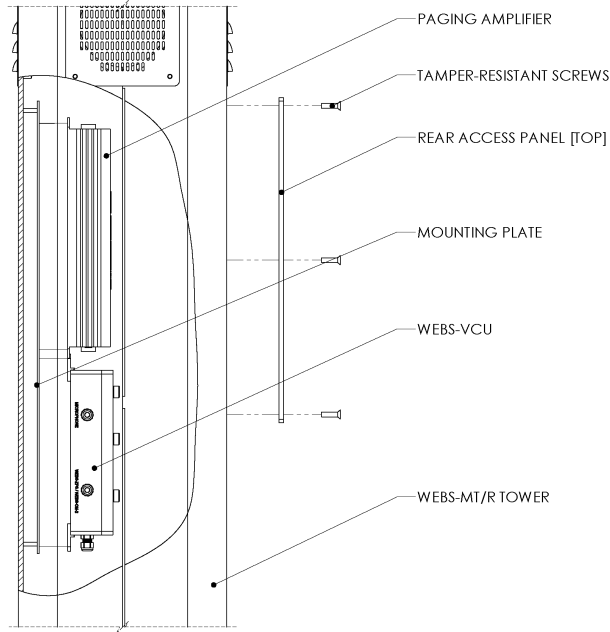

Figure 2. Installing the Paging Amplifier and the WEBS-Volume Control Unit (WEBS-VCU).
4. Remove the rear access panel (top) of the tower and mount the paging amplifier vertically aligned (power connection / speaker output side facing up and audio input side facing down) with the help of four (4) #10-32 nuts provided. Also mount the **WEBS-VCU** on to the upper mounting panel of the tower as shown in **Figure 2**, use four (4) #10-32 nuts. Connect the paging amplifier audio input channels to the respective audio outputs on the **WEBS-VCU** via RCA audio cables provided. (e.g. Amplifier audio input channel 1 to **WEBS-VCU** audio output 1).